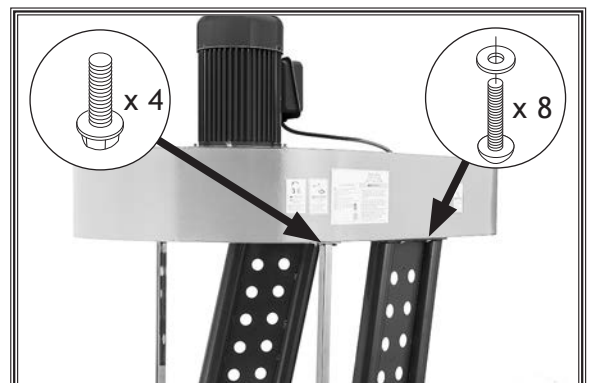

Figure 13. Impeller housing attached to support legs and lock handle guides.
- Secure impeller housing to support legs with (8) $\frac{5}{16}$ "-18 x $\frac{3}{4}$ " button head cap screws and (8) $\frac{5}{16}$ " fender washers (see **Figure 13**).
- Secure impeller housing to lock handle guides with (4) $\frac{5}{16}$ "-18 x $\frac{1}{2}$ " flange bolts (see **Figure 13**).